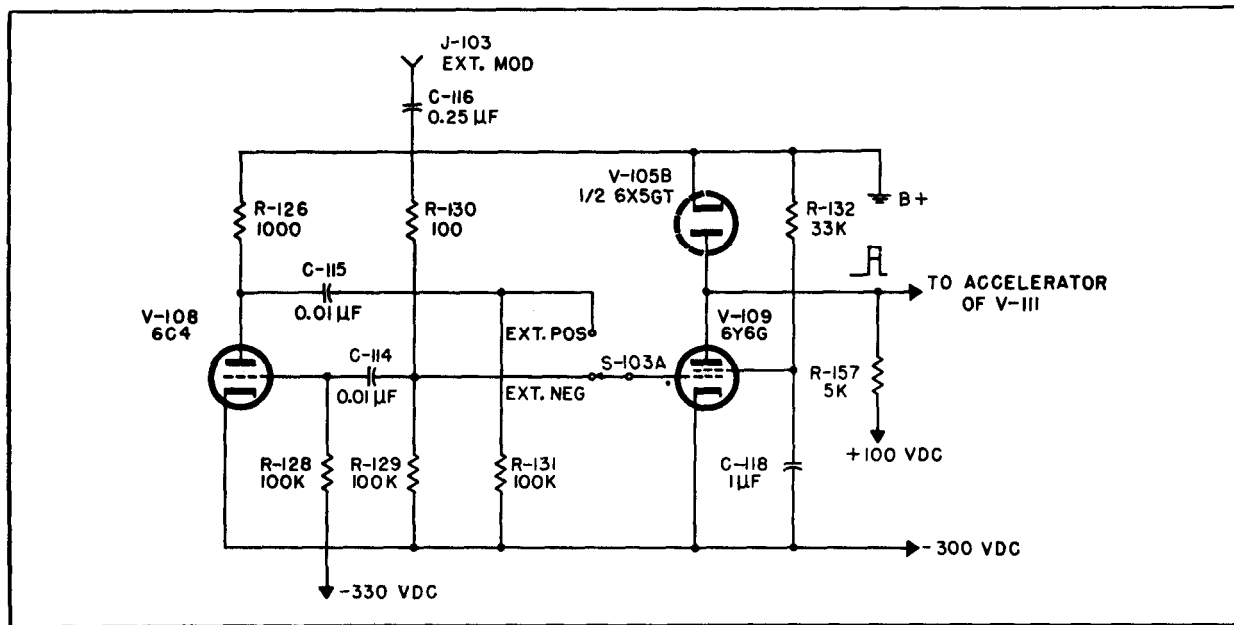

Figure 3-16. External Modulation Circuit
*f. EXTERNAL MODULATION.*-If the oscillator is to be modulated with an external square wave or pulse, the pulse is applied to Jack J-103, the EXT MOD jack (figure 3-16). Positive pulses are applied through S-103A to the grid of V-108 which is normally below cut-off. The positive pulse on the grid results in a negative pulse in the plate of V-108 and this negative pulse is applied to the grid of V-109. A positive pulse is then obtained in the plate of V-109 and is applied to the accelerator grid of the reflex klystron V-111, permitting rf oscillation for the duration of the pulse.